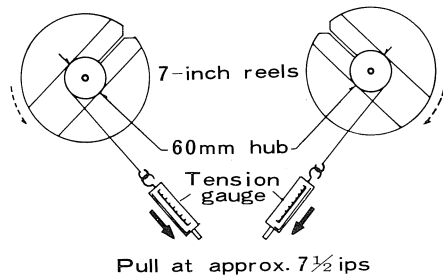

Fig. 9
2. See Fig. 9. Set FUNCTION lever to PLAY position. Attach tension gauge to end of tape or string, pull in direction indicated at approximately normal tape speed (7½ ips). Proper reading should be between 60 and 80 grams.